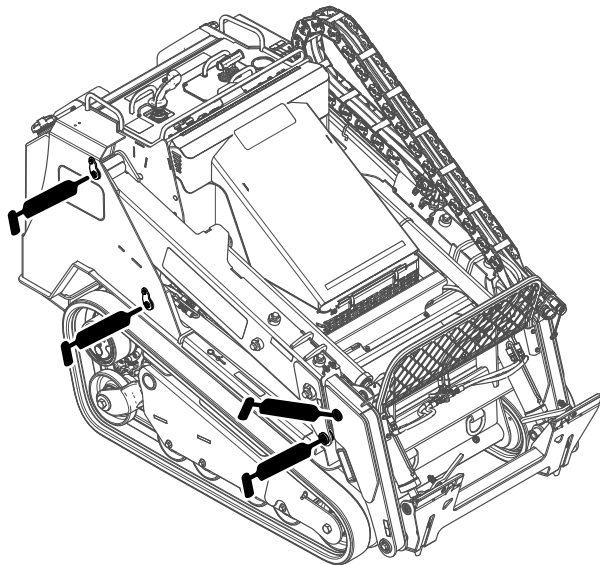
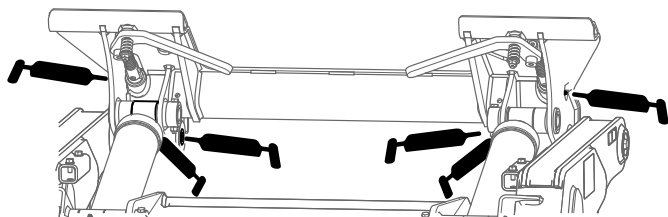
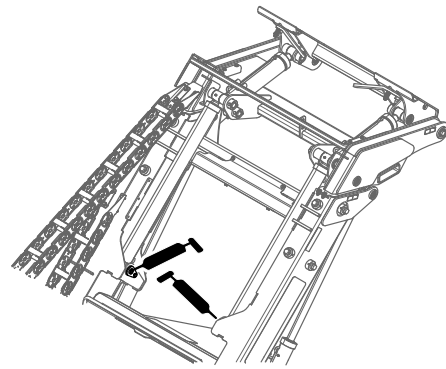

Figure 42
Figure 43
Figure 44
4. Connect a grease gun to each fitting (Figure 42, Figure 43, and Figure 44).
Note: Raise the loader arms before greasing the fittings in Figure 44.